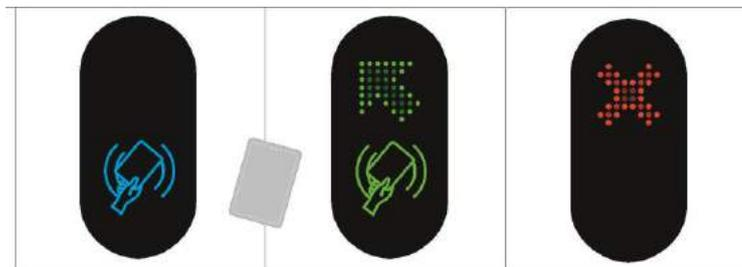

Fig. 6 - Turnstile status display
1.4.1.2 The turnstile status (Fig.6) is displayed by LED display (4) installed in the cabinet frame. Constantly lit blue LED means initial state of the turnstile. In case of attempt of unauthorized access red LED starts blinking and sound signal is generated on control desk. When opening command is issued, LED is changed to green from the side of authorized access. If unauthorized access is attempted when glass leaves (10) are opened, then the leaves will be closed, if there is no any obstacle in the leaves movement area.